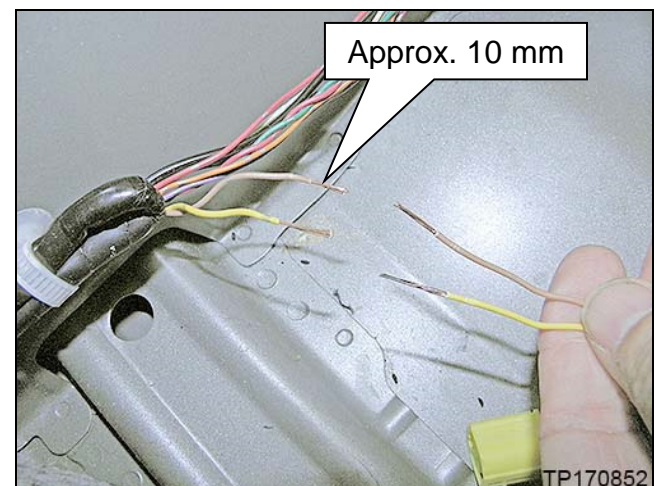

Figure 31
24. Strip approximately 10 mm (about 3/8 inch) of insulation from the wires that will be attached. See Figure 31.